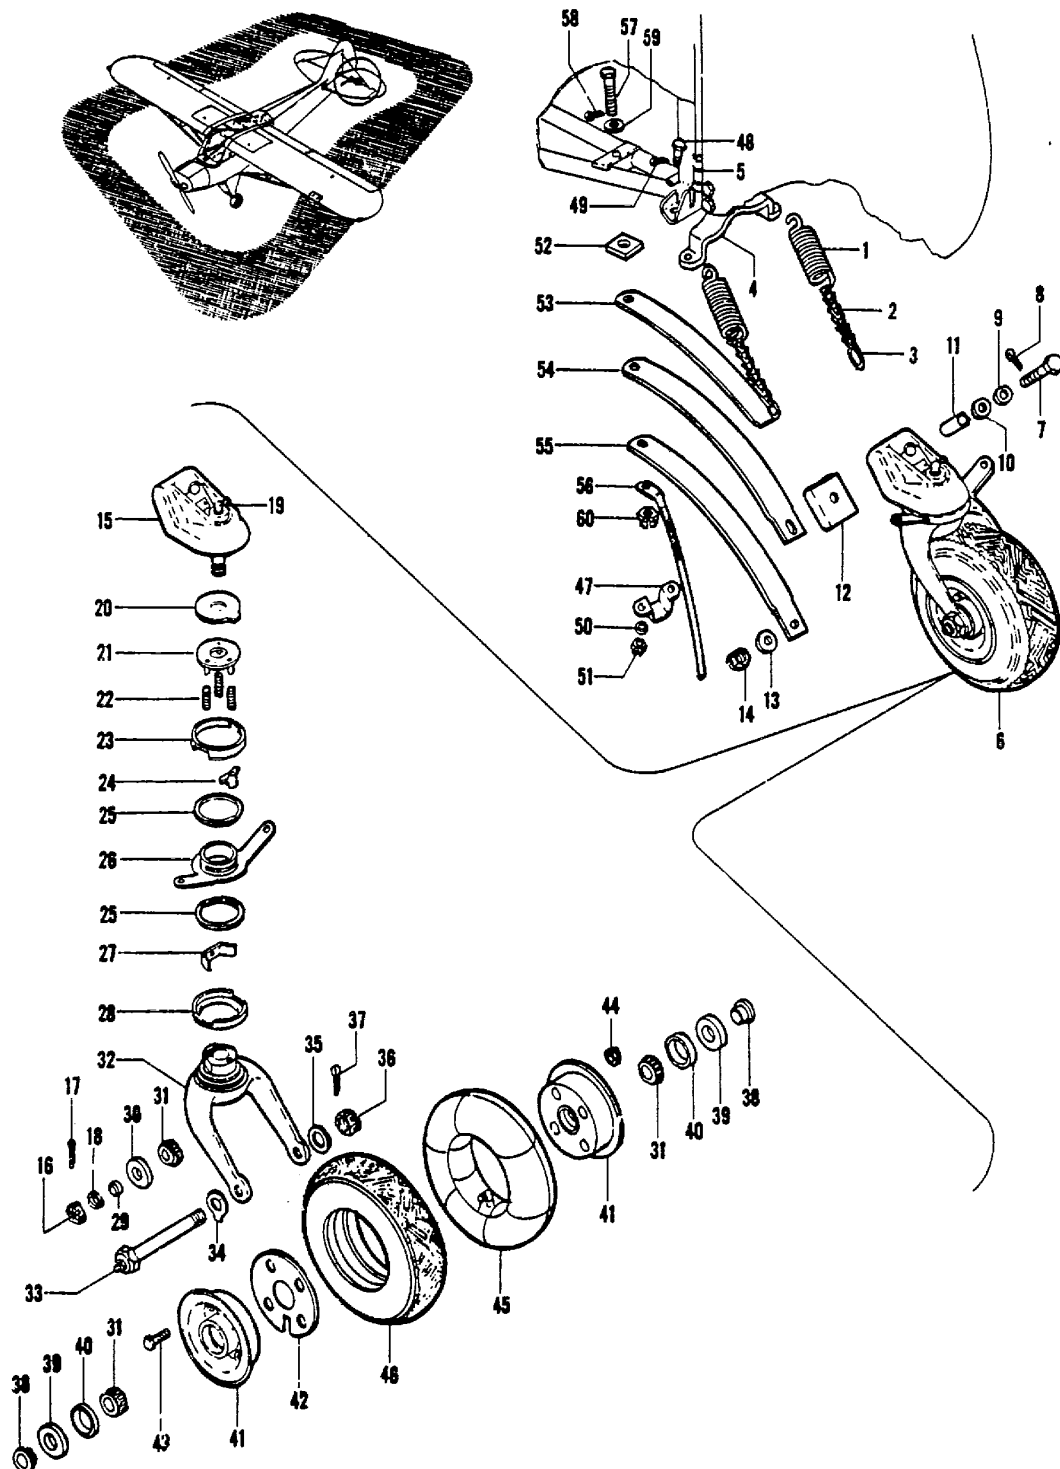

Figure 2-24. Tail Wheel Assembly
2-99. DESCRIPTION. (See figure 2-24.) The steerable tail wheel is mounted on shock-absorbing steel spring leaves which are bolted to the tail post of the fuselage structure. The tail wheel mounts on 8 x 4.4 four ply, pneumatic static grounded tire. Steering of the tail wheel is accomplished through spring loaded chains running from (26, figure 2-24) on fork (32) to the rudder arm (4). A static ground wire assembly (56) is provided to discharge any static electrical charges when landing the airplane.
2-101. REMOVAL OF TAIL WHEEL. (See figure 2-24.)
Legend for Figure 2-24.
moving bolts (7, 48, and 57) according to figure 2-24.
2-102. DISASSEMBLY OF TAIL WHEEL. (See figure 2-24.)
2-103. DISASSEMBLY OF TAIL WHEEL BRACKET AND FORK. (See figure 2-24.)
2-104. CLEANING OF TAIL WHEEL COMPONENTS. (See figure 2-24.)
2-105. INSPECTION OF TAIL WHEEL COMPONENTS. (See figure 2-24.)
2-106. MINOR REPAIR OF TAIL WHEEL COMPONENTS. (See figure 2-24.) There are no repairs for the tail gear components outside of realigning minor
2-108. REASSEMBLY OF TAIL WHEEL BRACKET AND FORK. (See figure 2-24.)
2-109. REASSEMBLY OF TAIL WHEEL. (See figure 2-24.)
- a. Place tube (45) in tire (46) and assemble wheel hubs with gasket (42) to the tire and tube assembly. Make certain gasket (42) is properly aligned with tube valve and hub bolt holes. Inflate tire to 50 pounds.
- b. Pack bearing (31) and bearing cones in hubs, with grease, Specification MIL-L-3545. Assemble bearing (31) spacer (40), grease retainer (49) and spacer (38) to the wheel hubs. Insert the assembly according to figure 2-24. Tighten nut (36) back off to first cotter pin hole in axle assembly (33) and insert cotter pin (37).
2-110. INSTALLATION OF TAIL GEAR. (See figure 2-24.)
- a. Assemble tail wheel springs (53, 54, and 55) and static ground wire (56) to the fuselage tail section with bolt (57), nut (60), clamp (47), bolt (48) and nut (51). Tighten nuts (51 and 60), back off to first cotter pin holes in the bolts to secure the assemblies with cotter pins (49 and 58).
- b. Position tail wheel (6) on spacer (12) and tail wheel springs (53, 54 and 55) and fasten the assembly according to figure 2-24. Tighten nut (14) (reference Table III) to 20 foot-pounds, insert Cotter pin (8) at first Cotter pin hole in bolt (7) after reaching 20 pounds, but before reaching 35 foot-pounds.